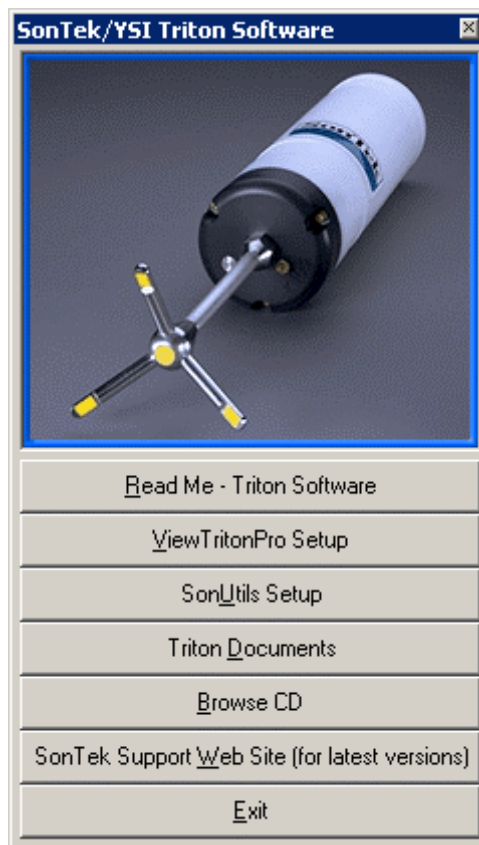

Figure 1 – Triton Software Installation Menu
1. Insert the CDROM in your drive. After a few seconds, the Triton installation menu should appear (Figure 1). If not, run the Install.exe file that is on the CD.
- Click ViewTritonPro Setup on the installation menu (Figure 1).
- Click SonUtils Setup on the installation menu (Figure 1).